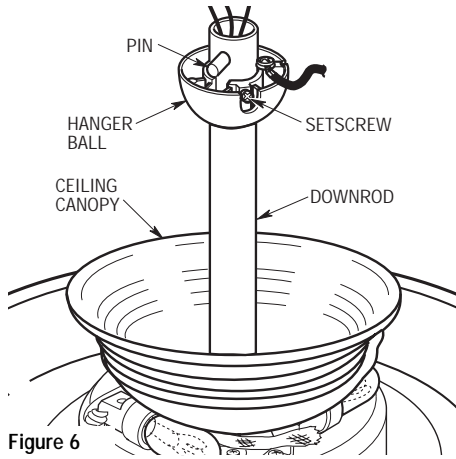

Figure 6
- 10. Place the ceiling canopy over the downrod. Then reinstall the hanger ball (Figure 6) on the downrod as follows. Route the three 80" motor leads through the hanger ball and slide the hanger ball over the downrod. Position the pin through the two holes in the downrod and align the hanger ball so the pin is captured in the groove in the top of the hanger ball. Pull the hanger ball up tight against the pin and securely tighten the setscrew in the hanger ball. A loose setscrew could create fan wobble.